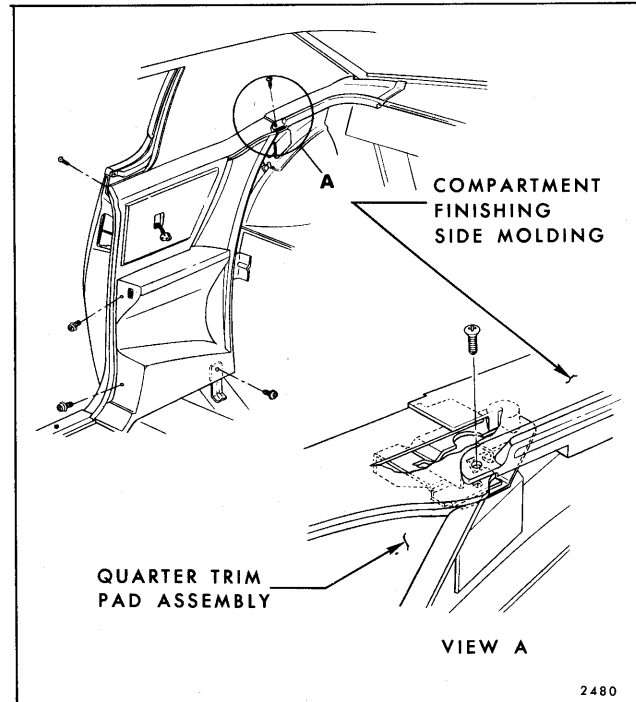

Fig. 14-23—Rear Quarter Trim Assembly - Cadillac "E" Styles
4. On Cadillac "E" Styles, remove screw securing compartment side finishing molding to quarter trim (Fig. 14-23).